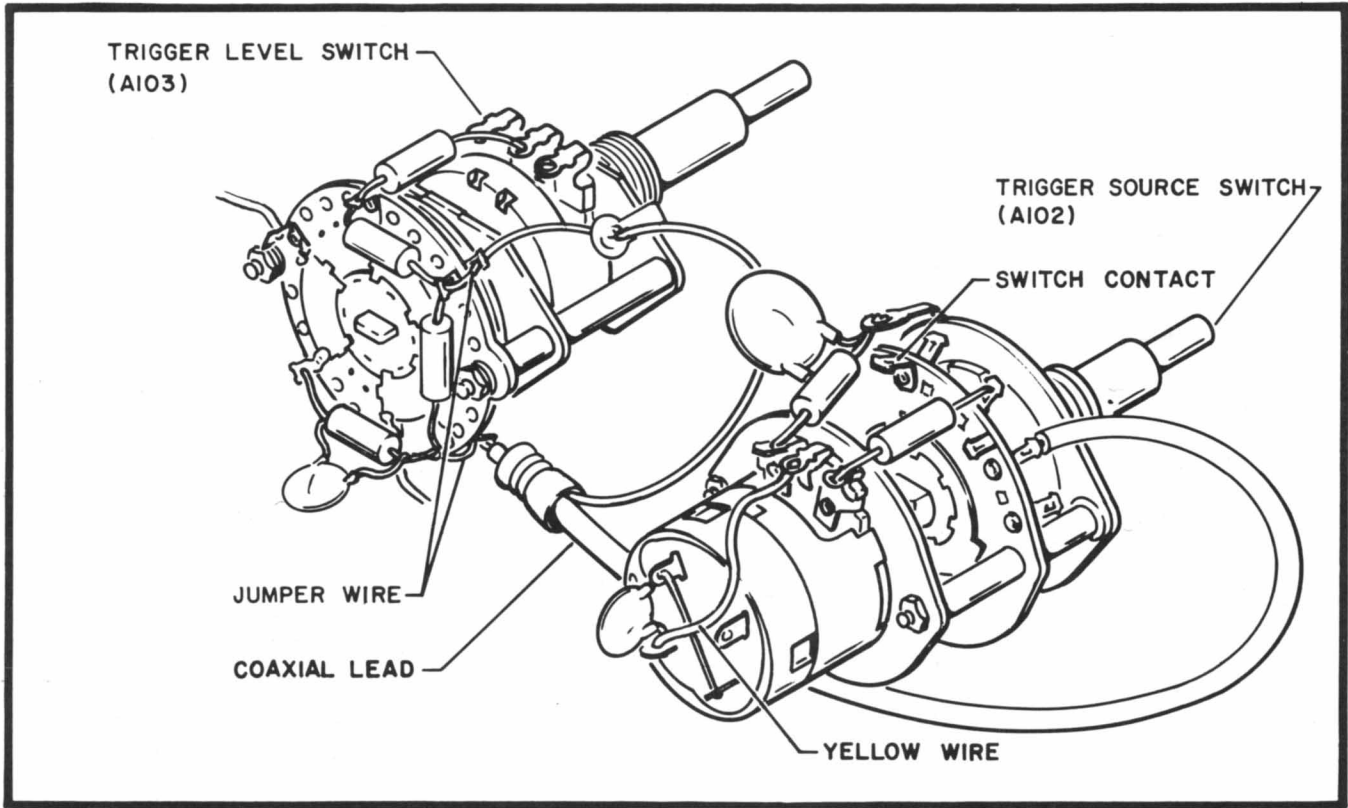

FIGURE 1. MODIFICATION LOCATIONS
- b. Solder two jumper wires (bare wire 1/4" long) as shown in Figure 1.
- c. Remove switch contact located on Trigger Source switch as shown in Figure 1.
- d. Install 7" coaxial lead (hp Part No. 175A-16AT) in place of green/orange wire as shown in Figure 1. Ground coaxial shield to ground lug on Trigger Level switch.